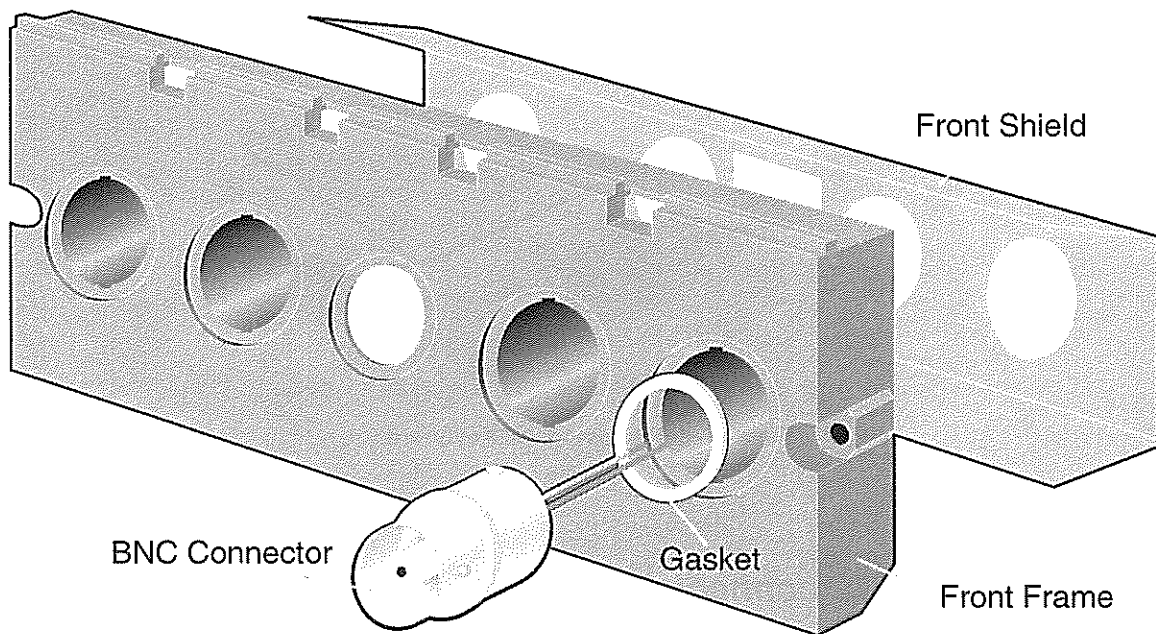

Figure 6-7. Assembling the Input Unit
9. Press the BNC connectors into the holes in the Front Frame. See Figure 6-7.